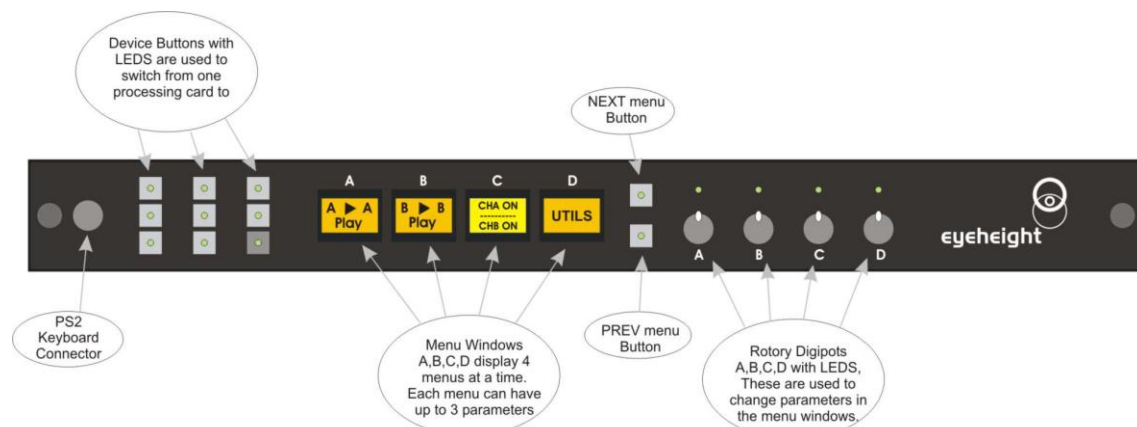

Figure 8: Flexipanel (FP-9) controls.
2. Using a **GOTO ANOTHER MENU** LCD button (as below coloured orange). This is more common and will take you straight to a relevant set of menus. Examples are the **Play** and **UTILS** menu’s shown on Figure 8.